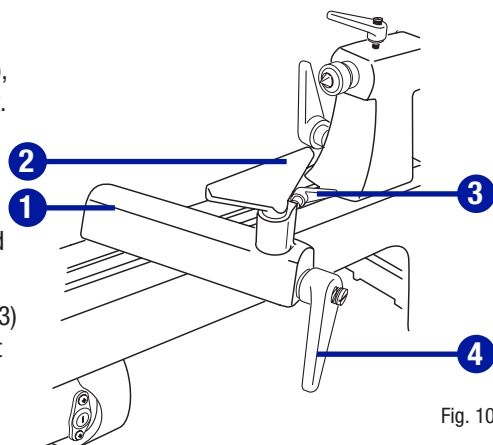

Fig. 10
**TOOL REST (Fig. 10)**
- To move the tool rest base (1), loosen the lock lever (4), and move the base to the right or left and back or front. Tighten the lever (4) when the tool rest base is in the desired position.
- To adjust the angle of the tool rest (2), loosen the lock lever (3), move the tool rest to the desired position, and tighten the lock lever.
- To change to the other tool rest, loosen the lock lever (3) and pull the tool rest (2) out of the tool rest base, insert the other tool rest, adjust to desired position, and tighten the lock lever (3).